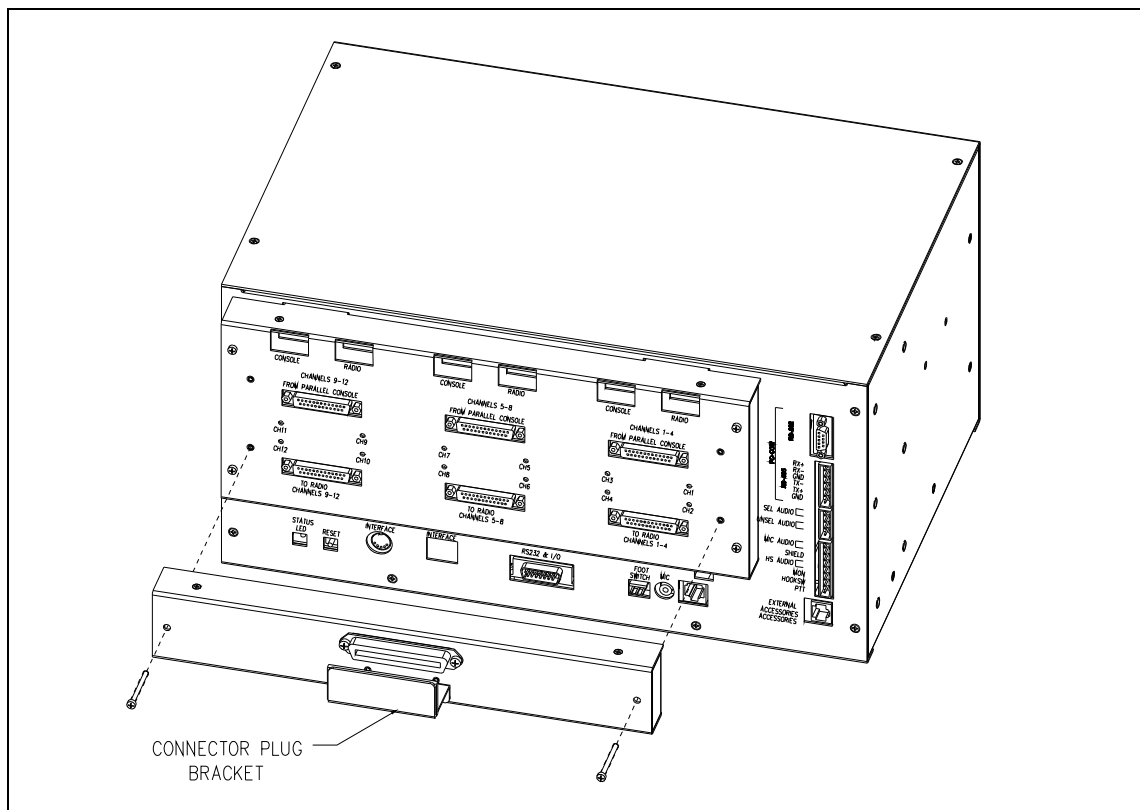

Figure 31.
Refer to the CARD Suite Software for details on configuring E&M control and supervisor control when installing this option. Refer to Table 17 for the pinout of the E&M connectors as seen in Figure 31.
2. Mount the Telco Interface (where applicable) to the Supervisory unit on the rear of the console. Refer to Figure 31. Position the Telco Interface so that the three DB25 connector plugs line up with the DB25 connector receptacles on the rear panel.
3. Secure the Telco Interface with the supplied #6-32 screws shown in Figure 31, tightening them until the unit is snug against the rear panel.